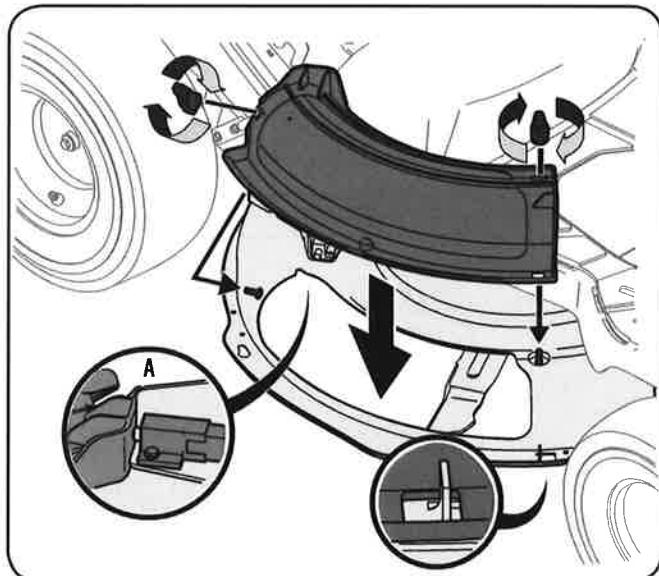

Figure 2
1. Install the mulch plug into the deck discharge opening on the deck. The studs on the deck surface will fit through the holes on the upper portion of the mulch plug. The small tab on the deck lip area will fit through the square cutout on the lower portion of the mulch plug. See Figure 2.
Note: Make certain that the upper-rear portion of mulch plug is depressing the safety switch located on the deck surface. See Figure 2 Inset A. The engine will not start without the mulch plug properly in place.